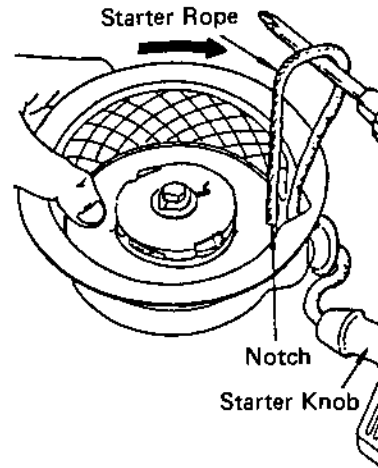

Fig. 68
- 2) Pull the starting knob and pull out the starter rope for 30 to 40 cm. Firmly press the reel with a thumb as shown in Fig. 68 so that the reel should not make reverse turn at the place where the reel notch comes to the outlet of starter rope. Pull out the starter rope to the inside of recoil starter with a screwdriver. Then, utilize the reel notch, and rewind it until the rotation stops in the arrowhead direction, braking the reel rotation with a thumb.
- i) If the starter rope remains left in the reel or the starter rope does not return at all, immoderate strain is imposed on the spring. So rewind the starter rope 1 or 2 times as per instruction in Fig. 68.